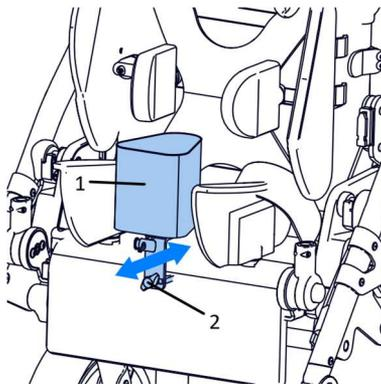

Fig. 28
In order to change the position or dismantle the abductor (1) Fig. 28 loosen the knob (2), this will allow the abductor to be moved along the seat axis. After determining the desired position of the wedge, tighten the knob (2) to block the abductor from moving.